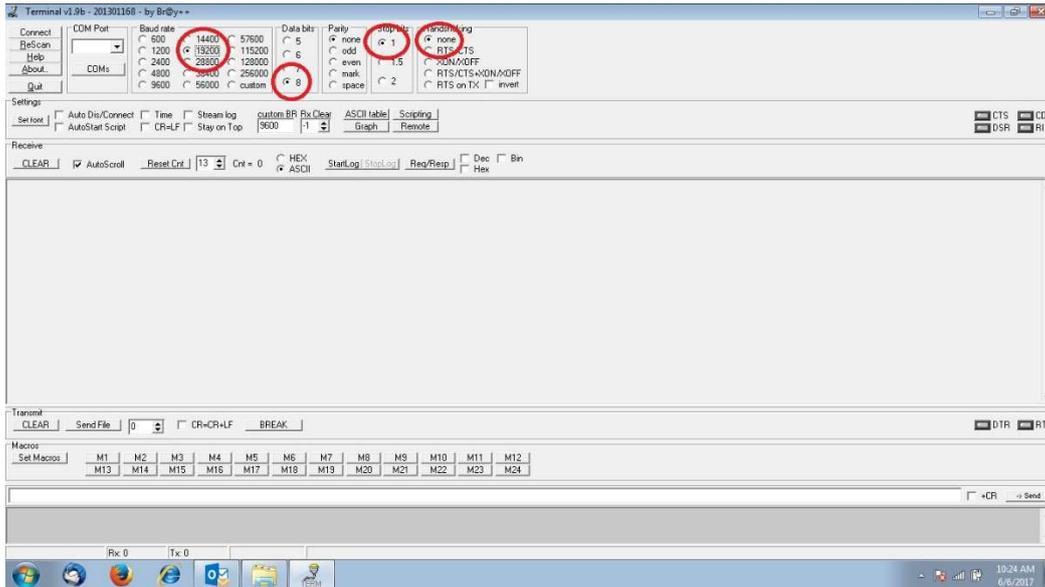

Figure 13. Terminal application settings.
7. Verify the settings as shown in Figure 13: (Baud Rate: 19200, Data Bits: 8, Stop Bits: 1, Parity: None, Handshaking: None)